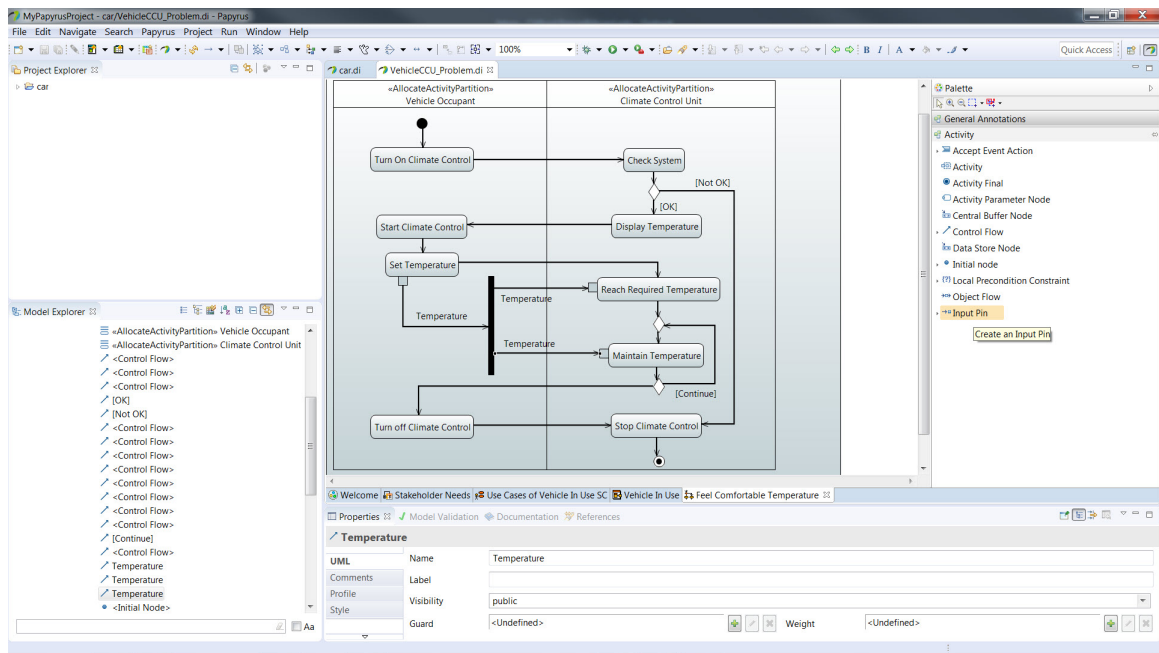

Figure 59: Temperature Input
28. Now we need to provide the *Temperature* as input to both the *Reach Required Temperature* action and the *Maintain Temperature* action. To do this go to the *Activity* palette on the right and Click on **Input Pin** then Click on the *Reach Required Temperature* action and an input pin will be created. Position this pin on the left side of the action if not already there. Repeat the procedure to create an input pin on the *Maintain Temperature* action. Now create control flows between the fork node and each input pin you just created. Your activity diagram should look like (figure 59) and our example activity diagram is complete.